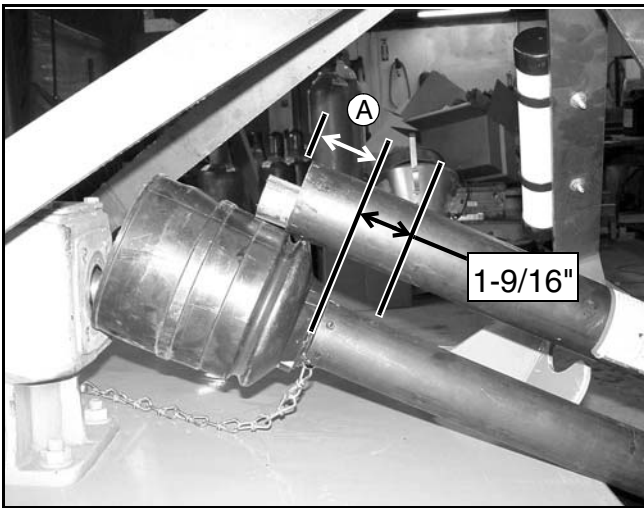

Figure 8. Determine Shield Length
4. Measure from end of the upper shield to the base of the bell on the lower shield (A). Add 1-9/16" to dimension (A). See Figure 8.